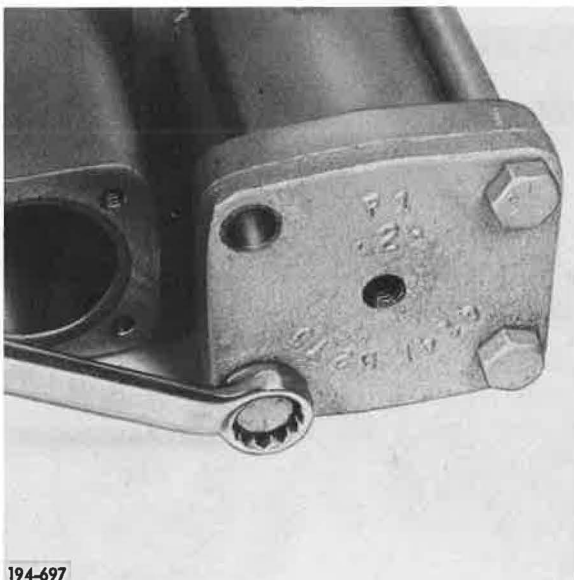

Figure 265. Installing Capscrews
15. Install Lo/Hi shift cover cap-screws, and tighten to 24 to 30 lb. ft. torque. Refer to Torque and Tolerance Table, Item 2. See Figure 265.